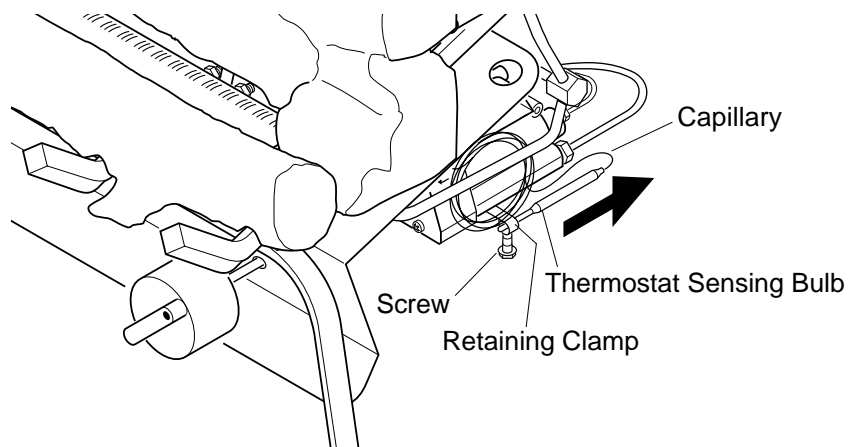

Figure 36 - Removing Thermostat Sensing Bulb
3. With 5/16" hex driver or socket, loosen the thermostat screw. Carefully slide the thermostat sensing bulb out of the retaining clamp (see Figure 36).